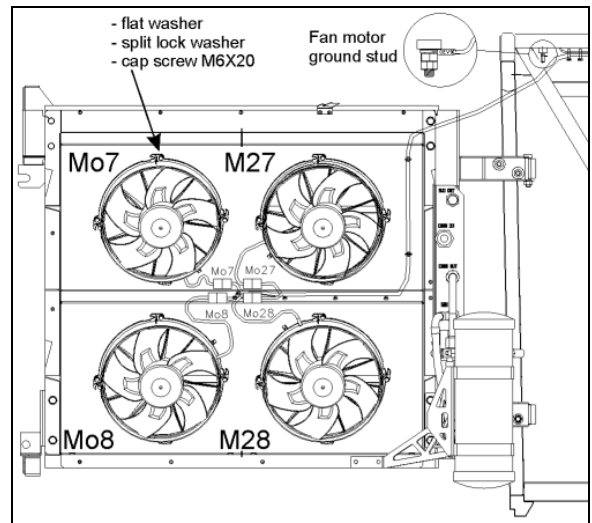

FIGURE 61: CONDENSER FANS
2. Unplug the fan harness connector (Figure 61).